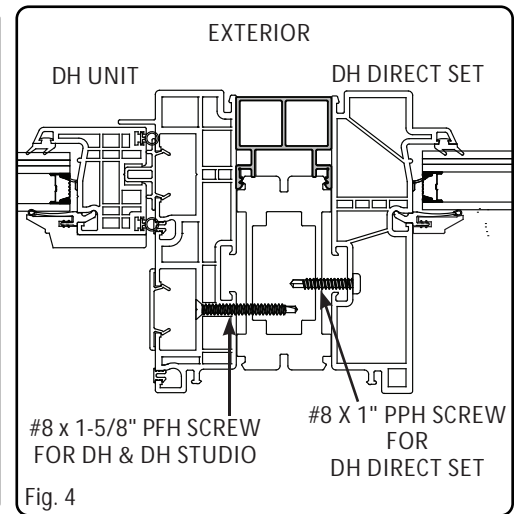

Fig. 4
- (Fig. 4) Secure together with screws, spaced 6" from each corner and 12" on center through the frame and into the reinforcement mull at each hole location on both sides of the mullied jambs. Screw size is determined by unit type, (Fig. 4) for correct screw size. Remove the clamp once all screws have been installed.